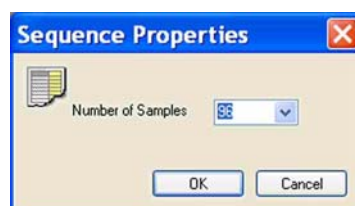

Figure 3-60. Specifying number of samples
2. Click on the **Sequence** icon to display the Sequence properties dialog box. See Figure 3-60.